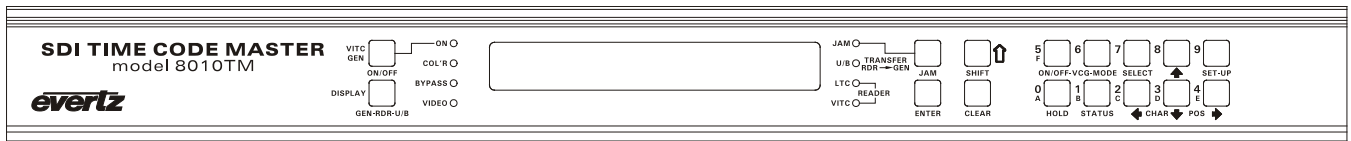

Figure 3-1: Model 8010TM Front Panel Layout
- Figure 3-1: Model 8010TM Front Panel Layout 3-1